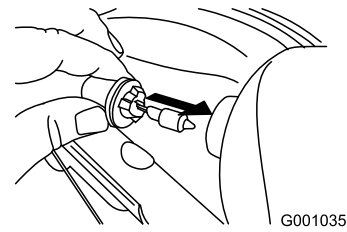

Figure 65
4. Insert a new bulb into the back of the headlight (Figure 65).